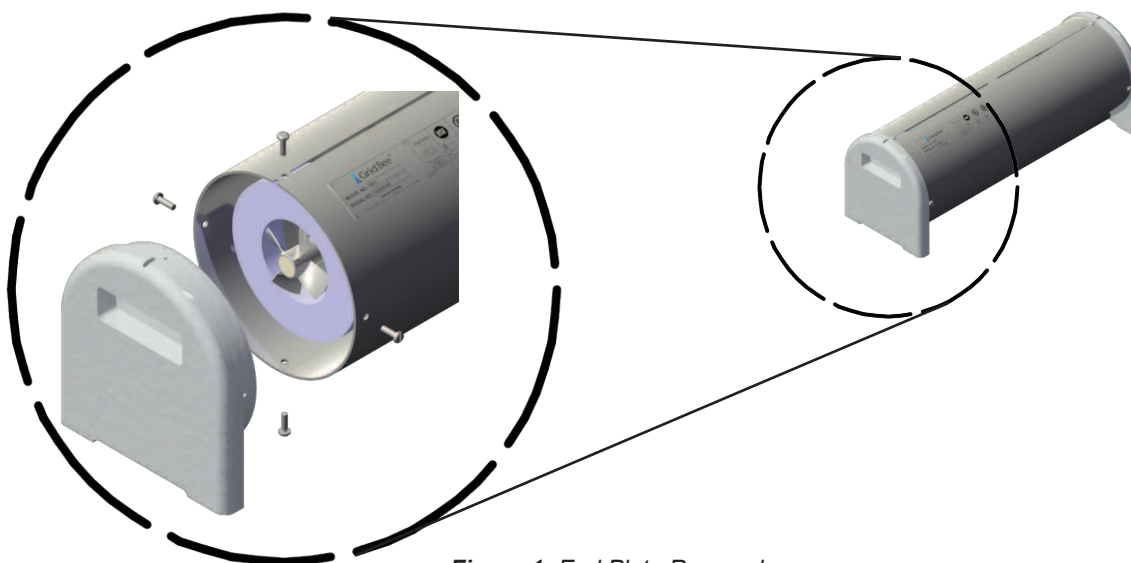

Figure 1: End Plate Removal
Remove white end plate on the end of GS Mixer. The side that should be removed is the side without the screen on it. You will find four (4) screws that will need to be removed in order for the end plate to become free from the mixer. (See Figure 1)